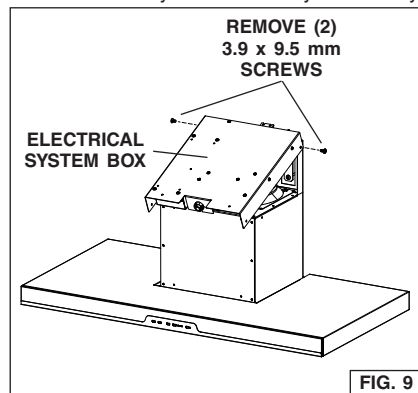

FIG. 9
1. Remove the electrical system box from chimney frame by removing (2) 3.9 x 9.5 mm screws. Fig. 9.
2. Attach electrical system box to frame using (2) 3.9 x 9.5 mm screws removed in Step 1 and (2) 3.9 x 9.5 mm screws and (2) lock washers from hardware bag.